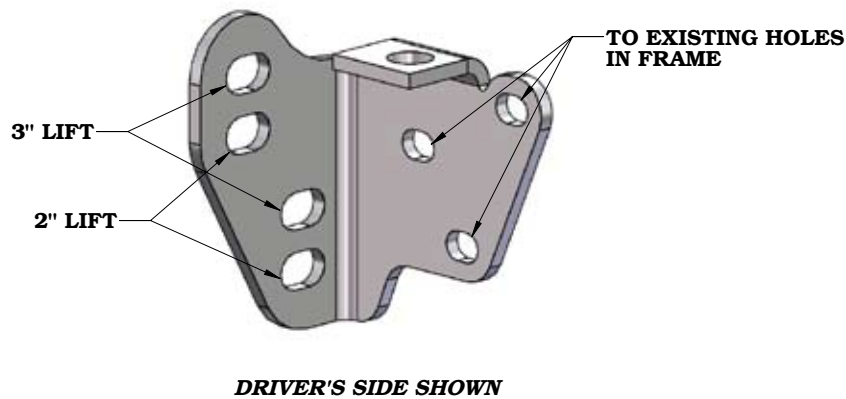

Figure 30
83. Mount the rear bumper to the new bumper brackets using the factory nuts. Use the lower set of holes for the 2" lift. Leave bumper loose. **Figure 30**